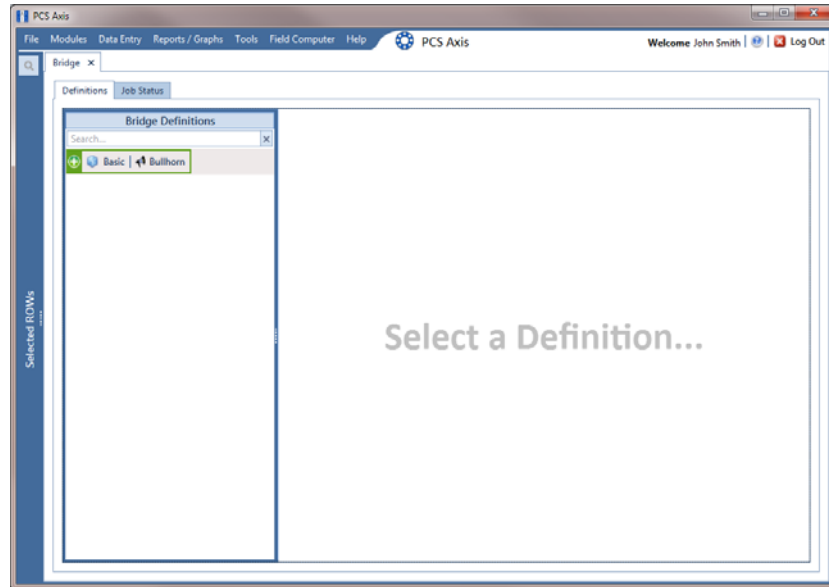

Figure 10-28. Bridge
- 2 Click **Tools** > **Bridge** to open the *Bridge* window (Figure 10-28, page 482)